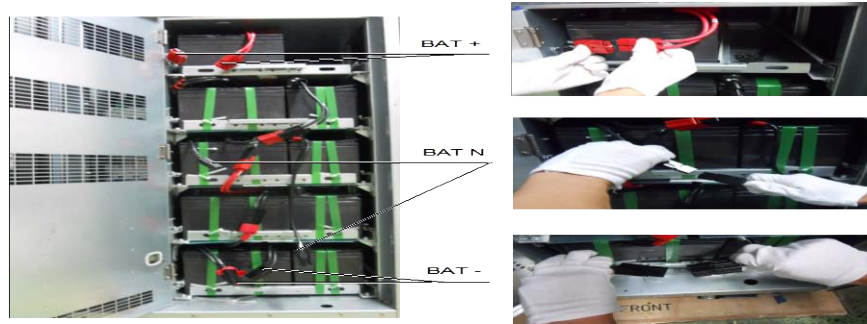

Figure 5-3 Disconnecting terminals of the internal battery
7. If the UPS has internal battery, use the special tool to open the battery compartment door, then disconnect the three terminals 'BAT+', 'BAT-' and 'BAT N' (see Figure 5-3 for details). If the UPS has external battery, disconnect the corresponding switch of the external battery.
2. If the UPS has internal battery, use the special tool to open the battery compartment door, then pull the three terminals 'BAT+', 'BAT-' and 'BAT N' (see Figure 5-3 for details). If the UPS has external battery, disconnect the corresponding switch of the external battery.
After EPO, if the input mains is present, the UPS's control circuit will remain active; however, the output will be turned off. To remove all power from the UPS, first disconnect the external power switch of the UPS, and then pull the battery terminals (see Figure 5-3 for details).